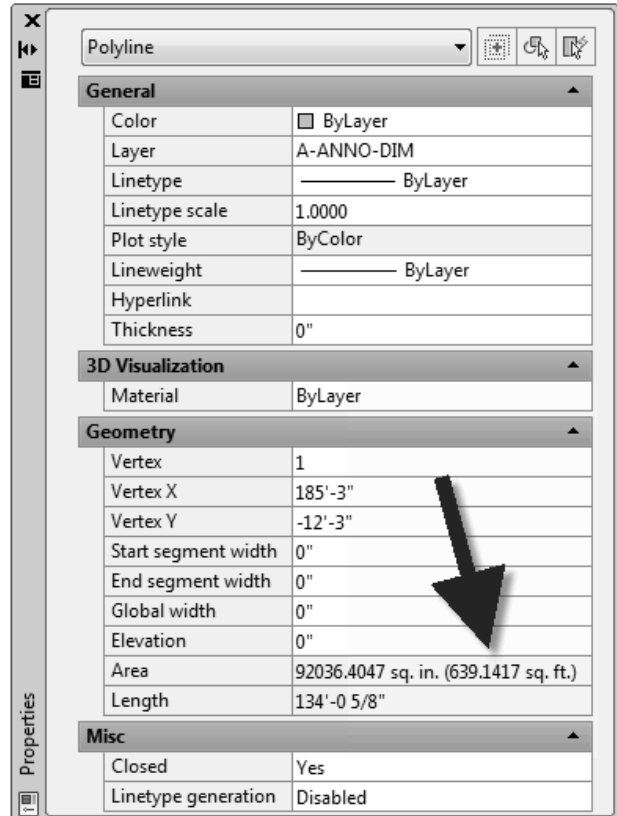

Figure 4-4.2 Polyline properties
7. Notice the **Area** and **Length** (which is the Perimeter in this case) properties listed (Figure 4-4.2).